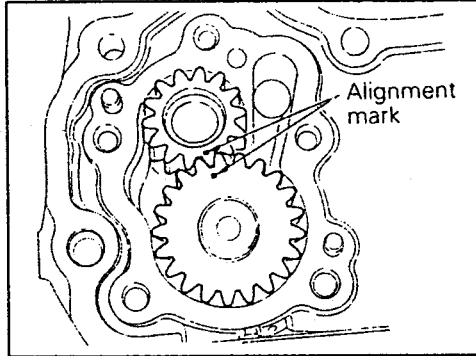

Fig. 15.30. — Aligning the timing marks when fitting the oil pump gears.
- Insert the two oil pump gears from the front into the front housing, aligning the marks as shown in Fig. 15.30. The two alignment marks must be opposite each other. Fit the pump cover and tighten the screws.